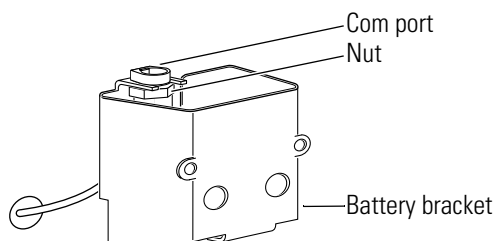

Figure 8.4 Removing and reinstalling the com port in the battery bracket
3. Loosen the nut securing the com port to the bracket and slide the com port out of the bracket. See Figure 8.4.
1. Routing the wire harness into the bottom of the battery bracket, slide the com port into its mounting slot inside the battery bracket as shown in Figure 8.4.